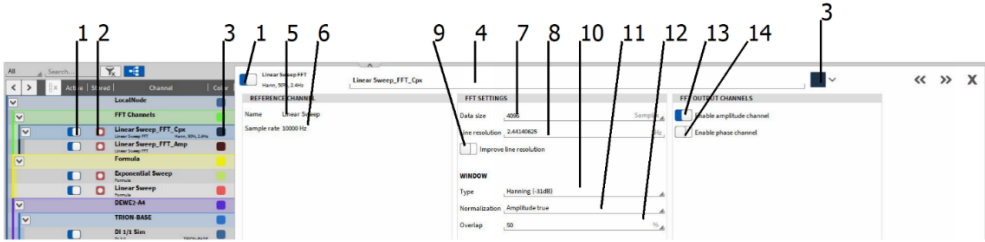

Figure 5-49: Complex FFT channel Setup- Overview
This channel is not calculated automatically but must be selected manually in the Channel Setup of the complex spectrum Channel *Channel_Name_Cpx* after creating the FFT channel (see ⑭ in Figure 5-49).